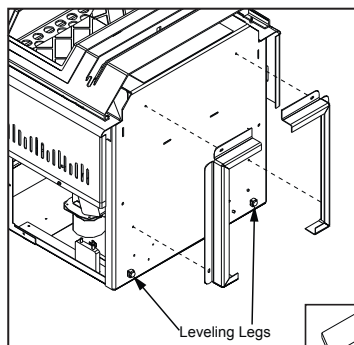

Figure 22: Installing Pedestal.
There are two parts to the GFI55 insert pedestal and they can be found inside the hopper. Place unit on its back. Two (2) hex head screws are used on each side of the pedestal (refer to Figure 22). Using a  $\frac{5}{16}$ " wrench or socket, secure the pedestal to the bottom of the unit.